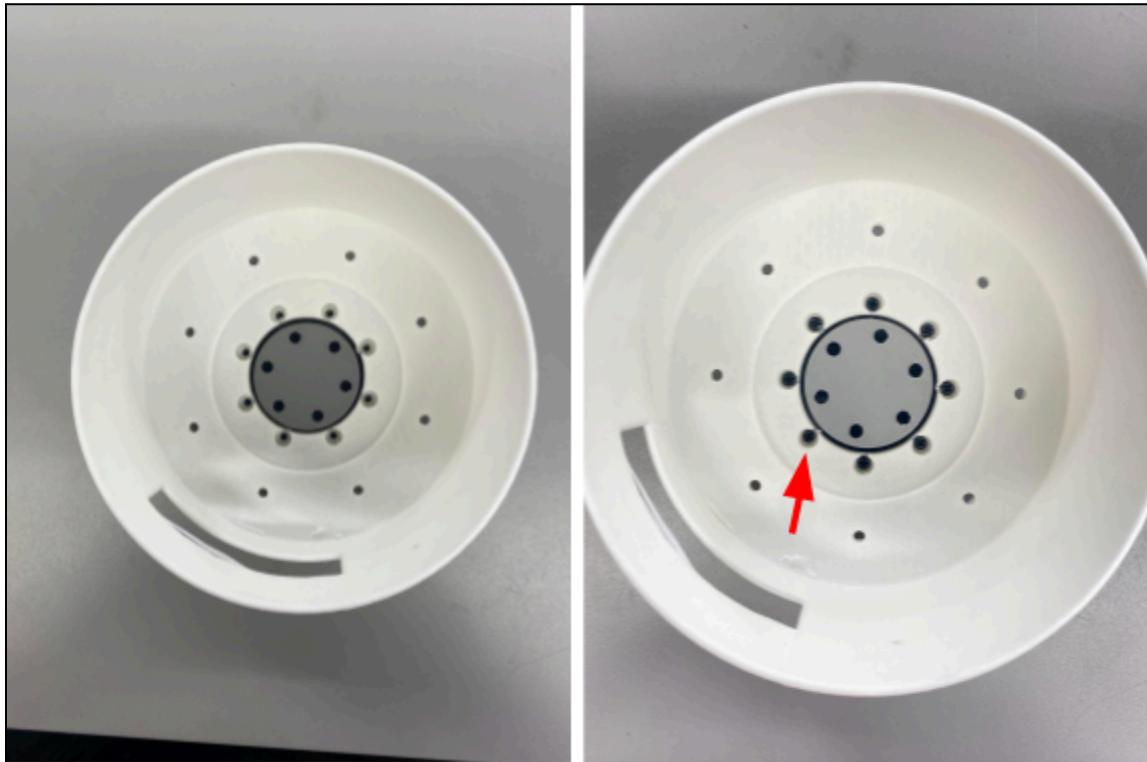

Figure 38: J4 Motor Cover to J4 Mushroom Cap
- Using eight M2.5 x 6mm screws, fasten the innermost hole of the cap to the inner ring of the Cross Roller Bearing and J4 Mushroom Cap assembly, as indicated by the red arrow in Figure 38.